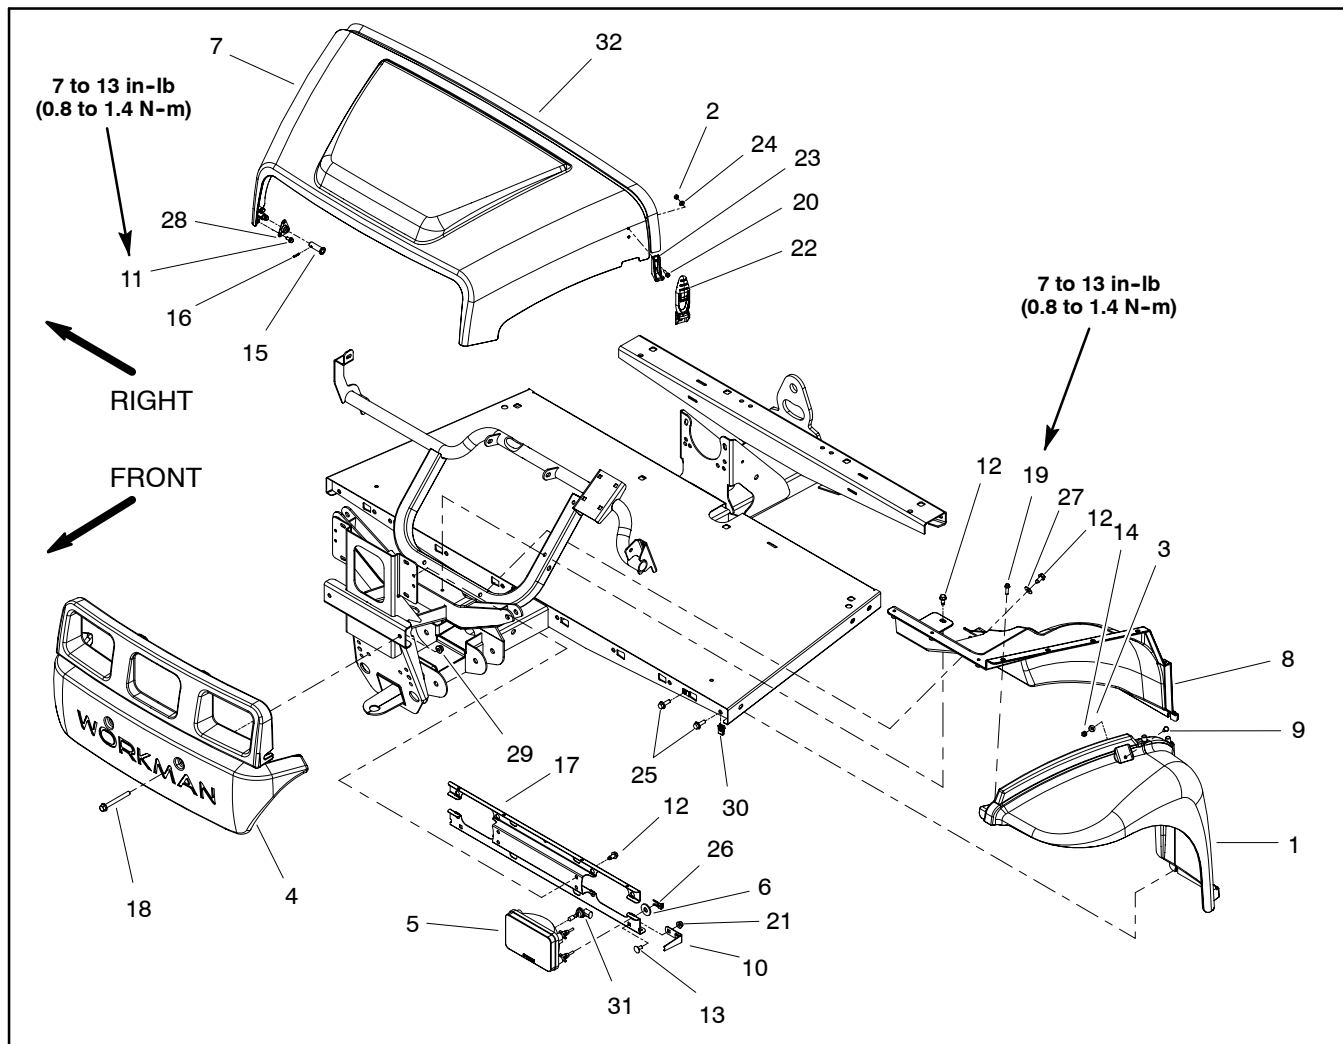

Figure 27
Removal (Fig. 27)
2. Remove hood using Figure 27 as a guide.
Installation (Fig. 27)
1. Install hood using Figure 27 as a guide. During assembly, use fastener torque specifications that are identified in Figure 28.